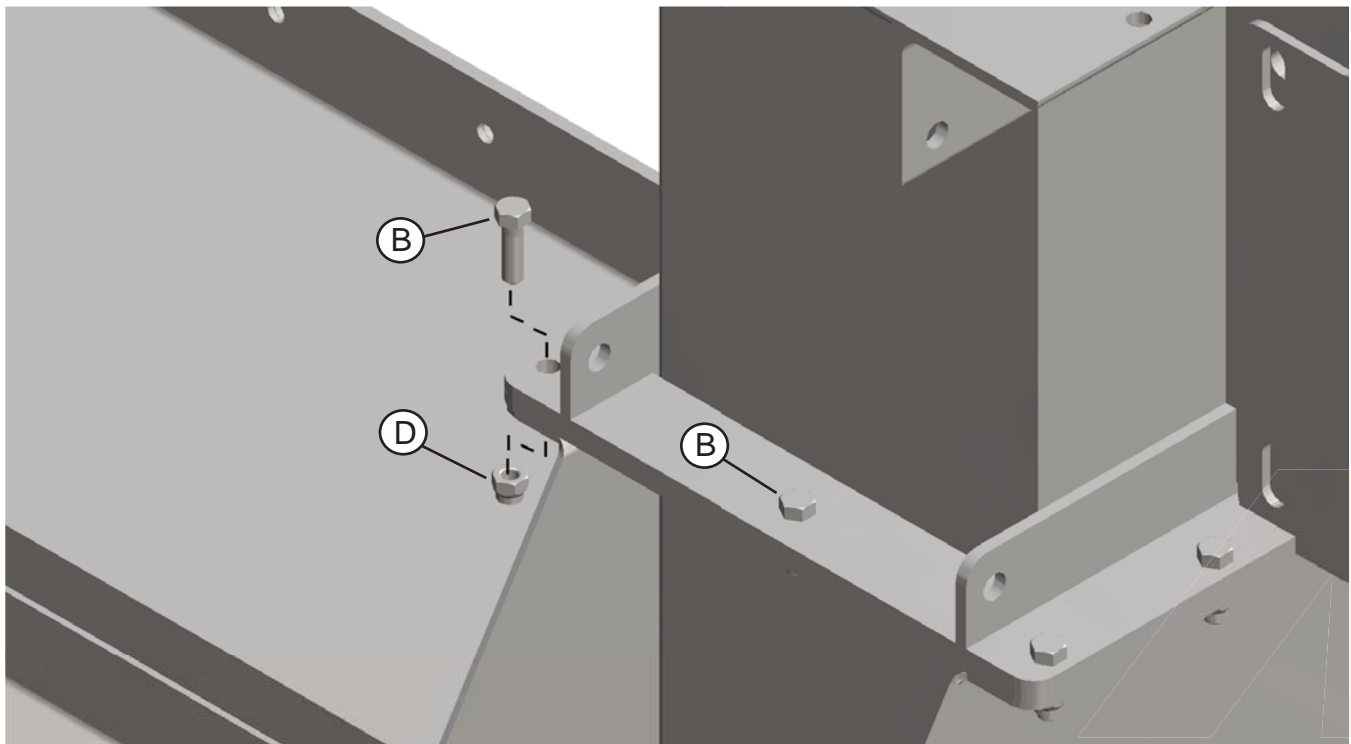

Figure 37
Align the holes and replace the twelve (12) 3/8" x 1 1/2" Bolts and twelve (12) 3/8" Nylon Locknuts (see **Figure 37**). Additionally, locate four (4) 3/8" x 1 1/2" Bolts and four (4) 3/8" Nylon Locknuts and attach them to the four central holes on the Connector Flanges.